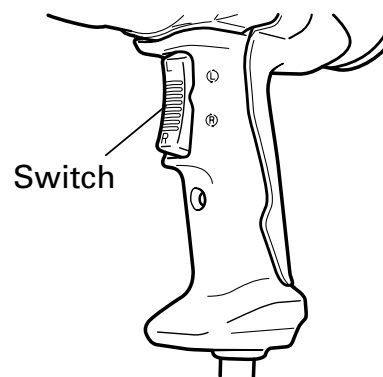

Fig. 3
1. Operation of switch (Fig.3)